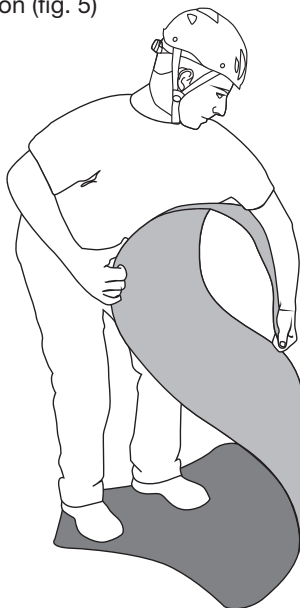

Fig. 5
- Remove the **"ROLLY"** rescue sheet from the transport bag (O) and remove the ratchet sling (N)
- Distend the support surface (A) and flatten it, rolling the ends over in the opposite direction and folding the central section (fig. 5)